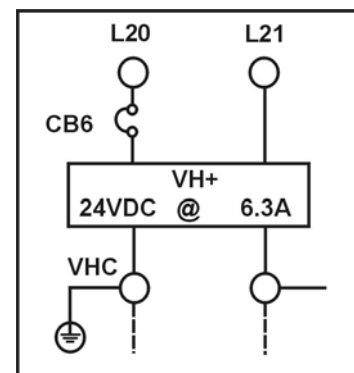

Figure 1-5
- An independent, emergency backed, single-phase 120 VAC circuit is common to all drive types (for the first controller of each group only). [See Figure 1-5.]